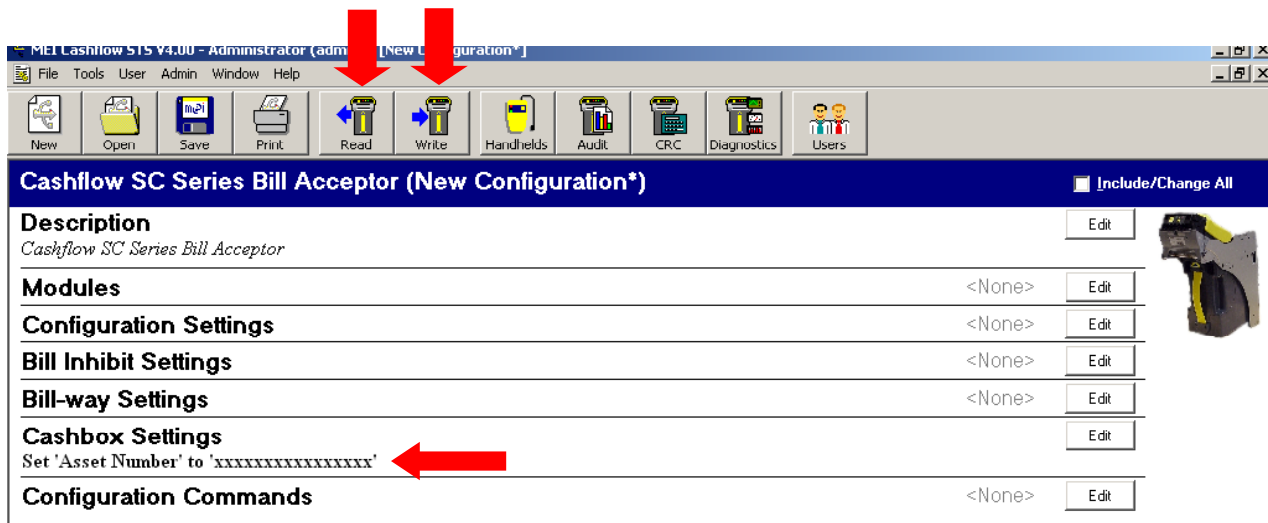

fig. 6
8. Select the write button  from the main screen. See fig.6